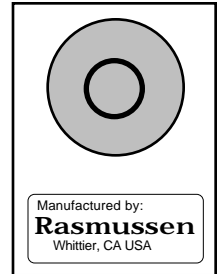

Figure 9
4. Depress valve knob until air is bled and gas flows to pilot. Press **Piezo Ignitor Button** (Figure 9) to light pilot. Hold valve knob in until Pilot remains lit when knob is released.